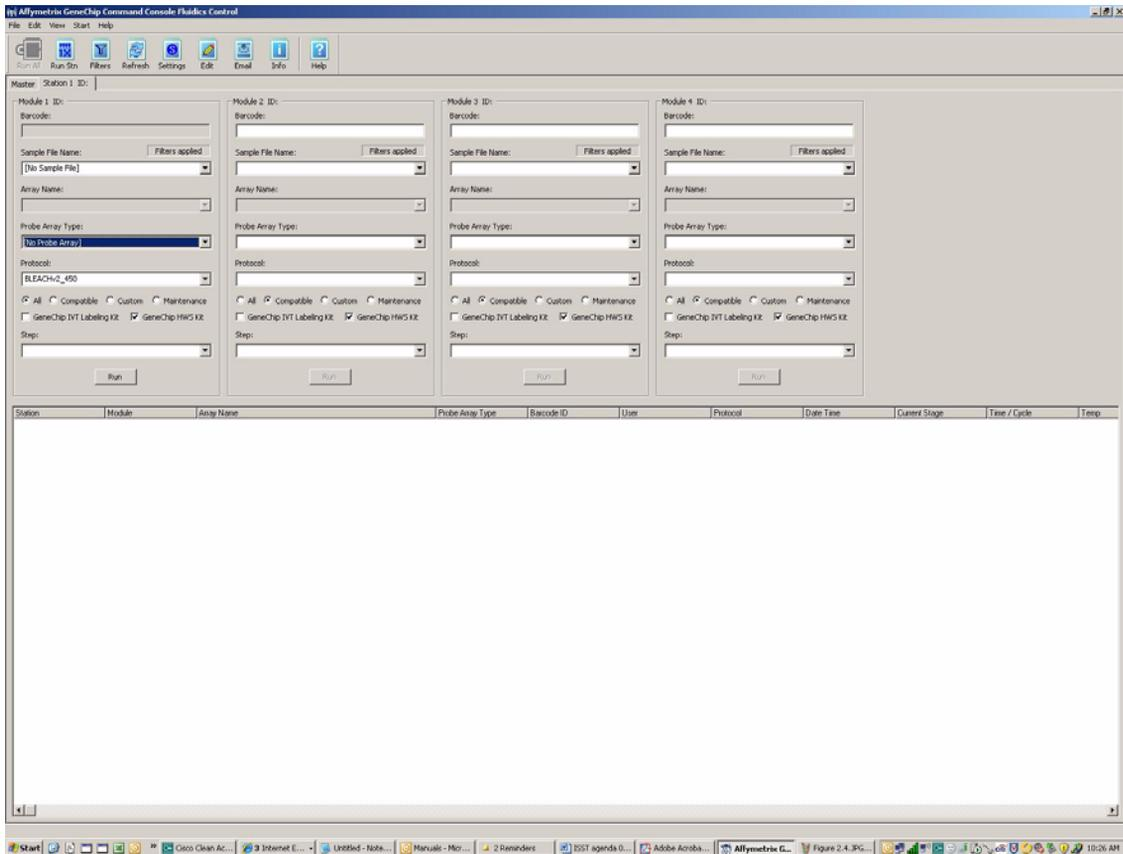

Figure 3.3
5. In the AGCC Launcher, click the AGCC Fluidics Control Icon; or Click **Programs Affymetrix → Command Console → AGCC Fluidics Control..** (Figure 3.3).